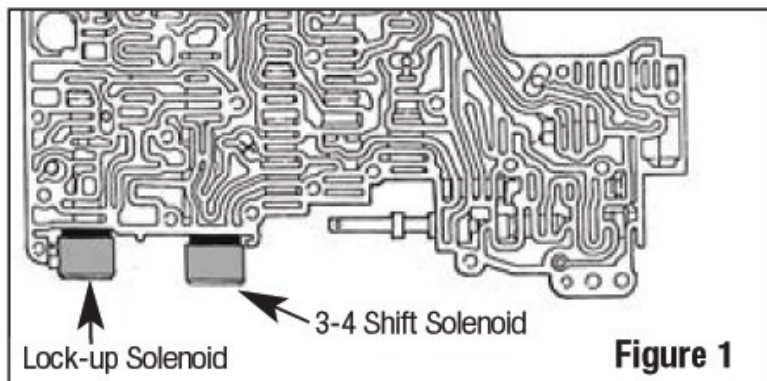

Figure 1
1. To Remove: Before removing the valve body, label wire pairs. Unplug the electrical wires that attach the 3-4 solenoid leads. Fig. 1 The valve body on all A4LD transmissions must be removed before any of the Solenoid can be replaced.